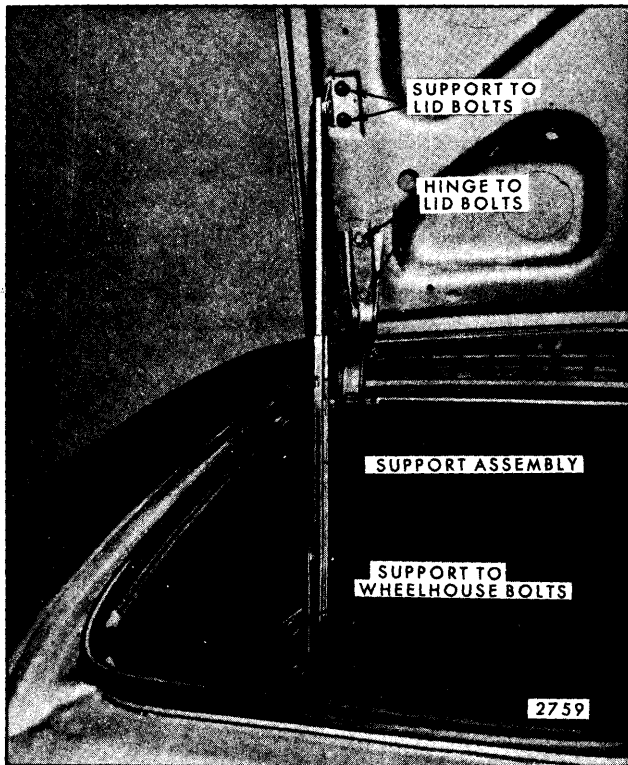

Fig. 8-11—Engine Compartment Lid Support - "Z" Styles
2. Remove two attaching bolts securing support to lid and two bolts securing support to wheelhouse and remove support from body (see Fig. 8-11).